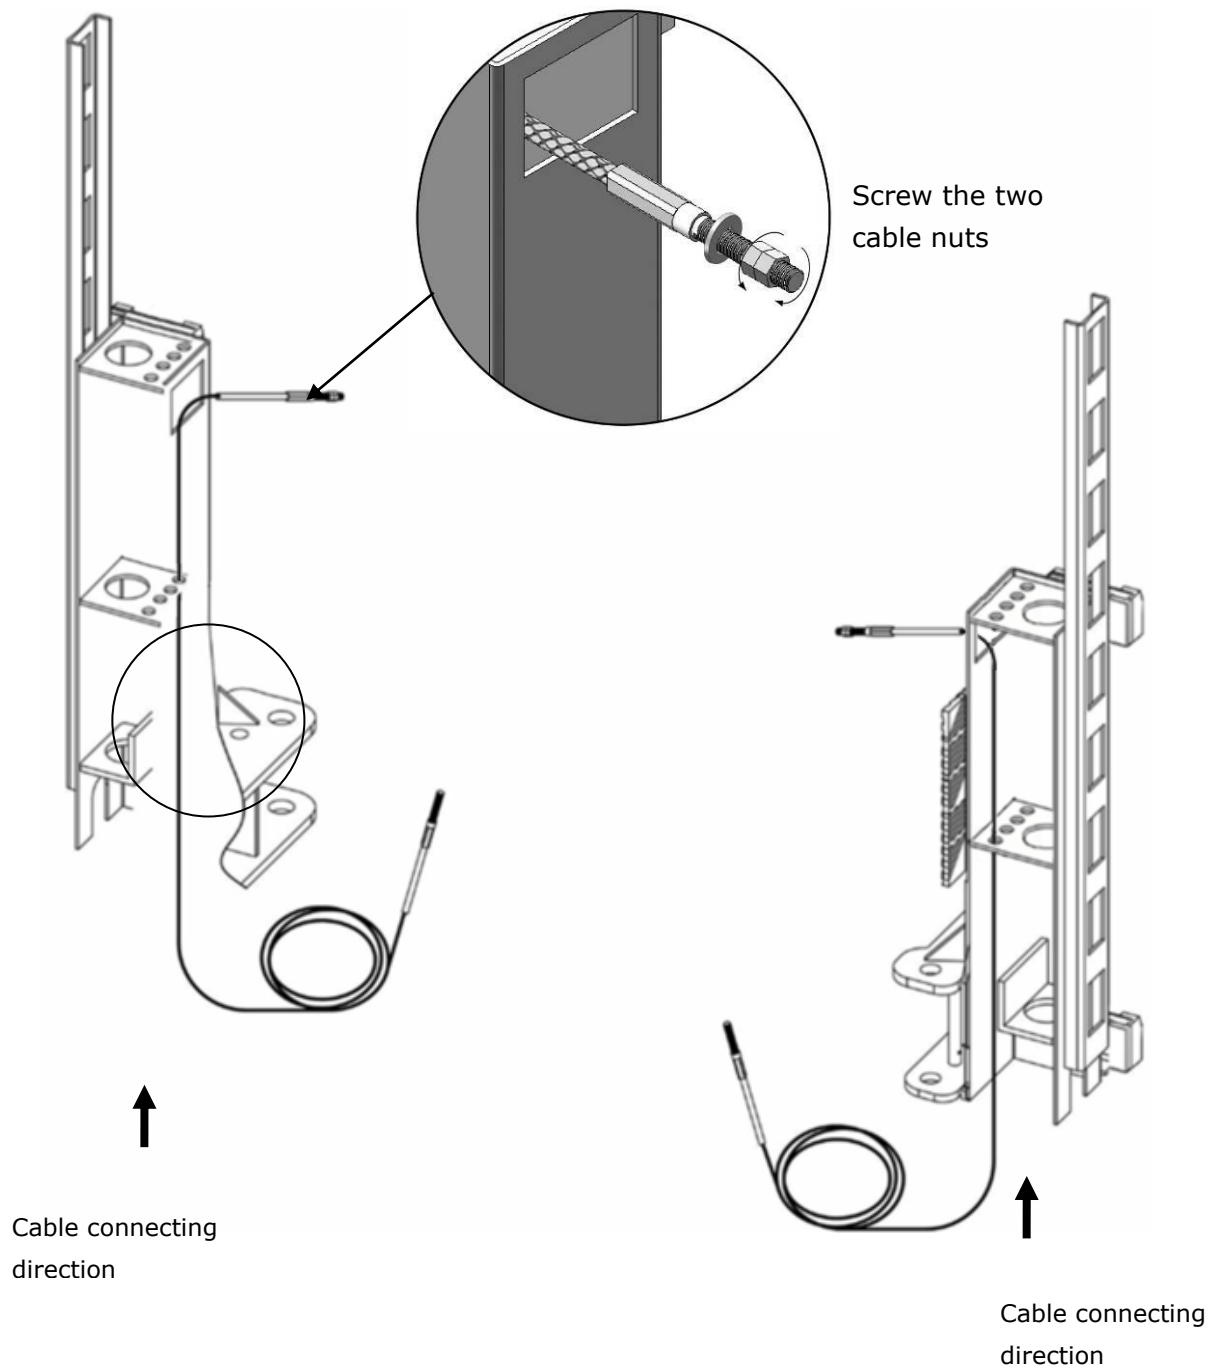

Fig. 27
- 1.1 Remove carriages' plastic cover, pass cable through from the bottom of the carriages and be pull through the openings of the carriages, then screw on/adjust the two cable nuts (**See Fig. 27**).